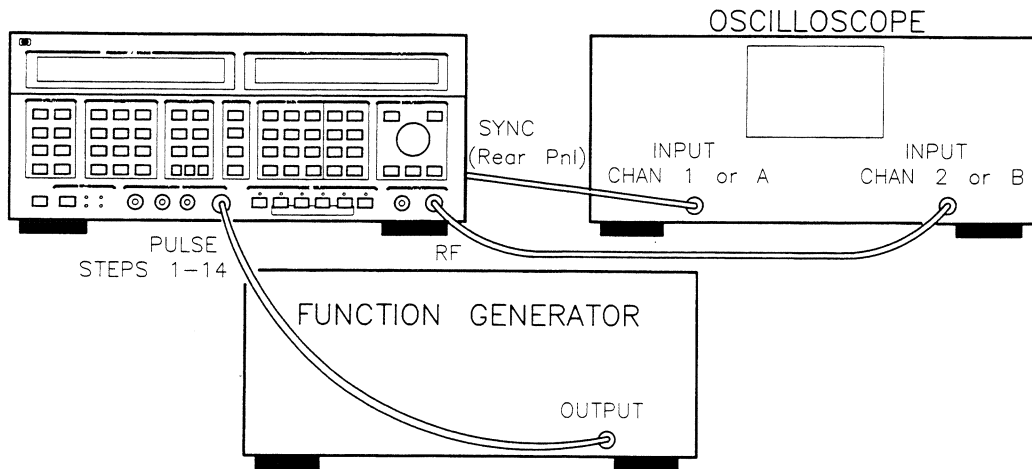

Figure 2-12. Equipment Setup for Pulse Modulation Procedure #2.
1. **Connect the Signal Generator to an oscilloscope and function generator as shown in figure 2-12.** Turn on the equipment, and make the following adjustments: